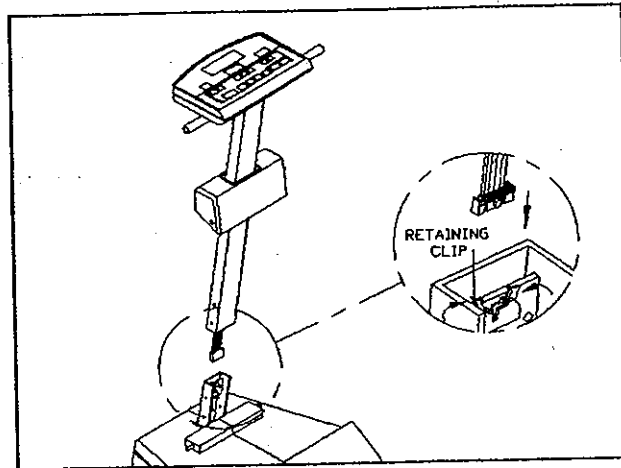

Fig. 1
- a. If the display is still blank, make sure the retaining clip connected into its socket securely (see Fig1)